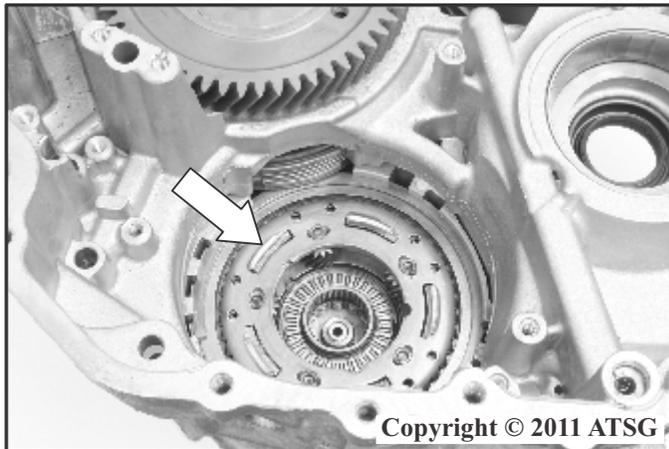

Figure 48
67. Remove the 1-2/Reverse planet carrier assembly as shown in Figure 48.
68. Remove the lower 1-2/Reverse planet carrier thrust washer as shown in Figure 48.